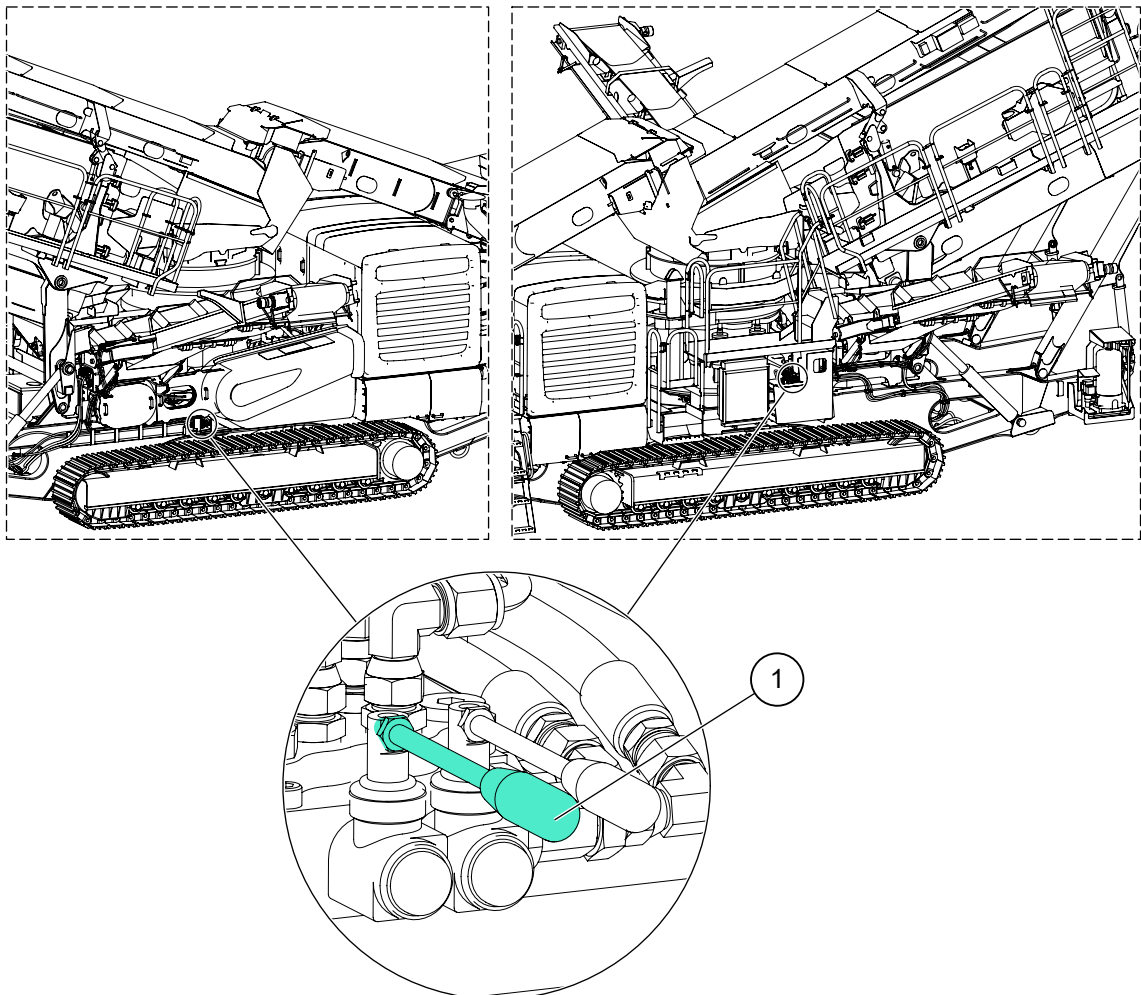

Figure 19. LT220D side conveyor valves
7. If your machine is LT220D, switch on the hand valves and lower the side conveyors using the hand valves on both sides of the machine (see Figure 19. LT220D side conveyor valves).